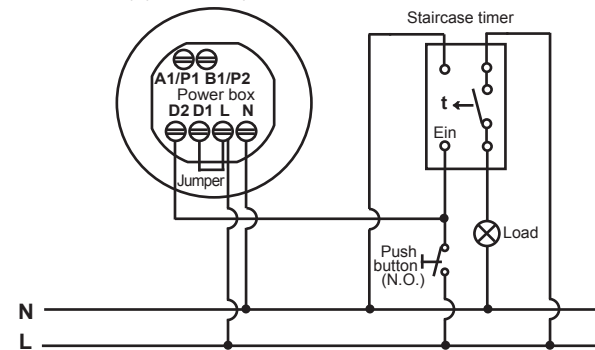

FIG.5
- One sensor controls staircase timer (Set the time knob to  $\frac{1}{2}$  L) (See FIG.5).